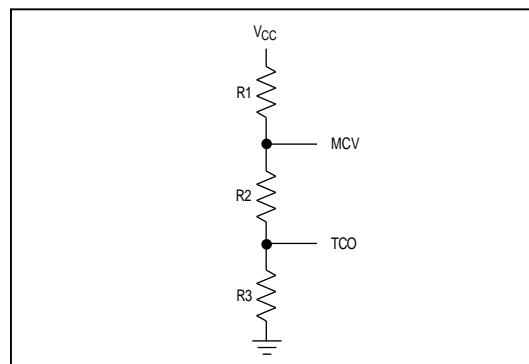
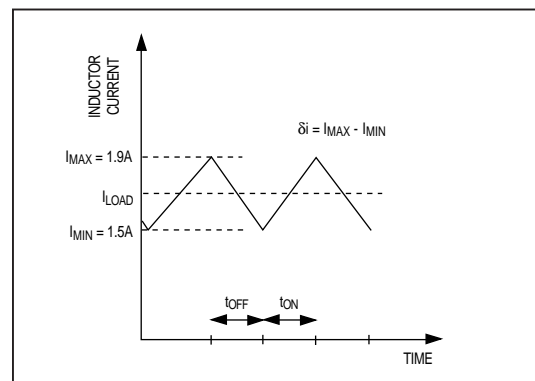

Figure 9. Resistor Configuration for MCV and TCO
Figure 10. Inductor-Current Waveform in Continuous-Conduction Mode
**7) Select Maximum Cell Voltage (MCV) and Temperature Cutoff (TCO).** The MCV and TCO can be selected with a resistor-divider combination (Figure 9). In our example, TCO has been set to +10°C, which corresponds to a voltage of 1.72V at the TS pin. The MCV for most fast-charge batteries can be set to about 1.9V. To minimize the current load on VCC, choose R1 in the range of 20k $\Omega$  to 200k $\Omega$ . In this example, choose R1 = 60.4k $\Omega$ , then calculate R3 and R2 as follows:
In order to provide high currents with minimum ripple, the device must function in the continuous-conduction mode. Figure 10 shows a current waveform of an inductor in the continuous-conduction mode (where the coil current never falls to zero).
The average load current ( $I_{LOAD}$ ) through the inductor must be 1.7A, so a peak current ( $I_{MAX}$ ) of 1.9A should give a fairly low ripple while keeping the inductor size minimal. This means that the total current change (Figure 10) across the inductor is  $\Delta I = 2(1.9 - 1.7) = 0.4A$ .
The MAX2003/MAX2003A can use several other circuits to charge batteries. Figure 9 shows a circuit that uses a Darlington transistor to regulate the current a six-cell NiCd battery pack receives. Figure 10 shows a gated current-limited supply being used to charge a Duracell NiMH battery pack. Table 6 lists the external components used in these two application configurations.